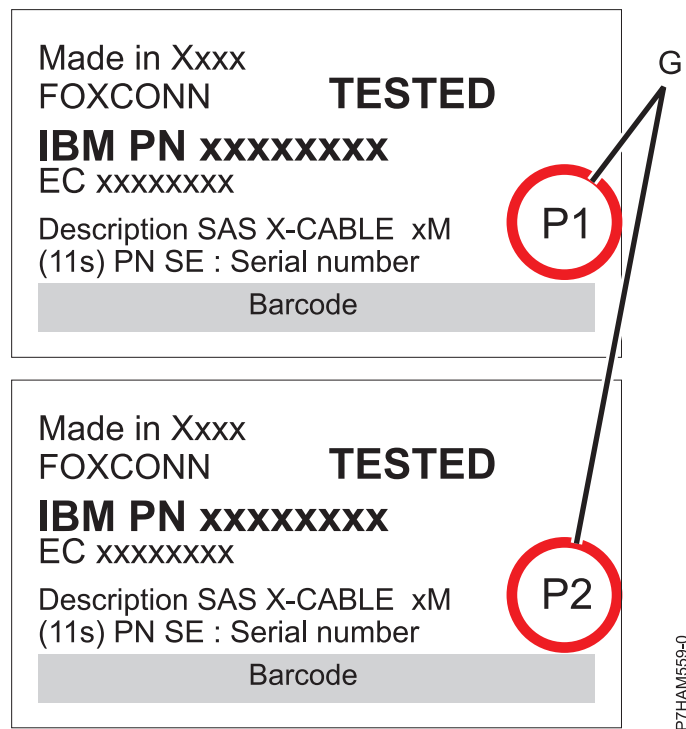

Figure 42. Labels for SAS adapter cables showing P1 and P2 identifiers
- The cable that plugs into independent SAS adapter 1 (C) contains a label with the P1 identifier (G), as shown in Figure 42 on page 72. This adapter does not have access to any other independent adapter and has access only to drive bays D1 - D6.
- The cable that plugs into independent SAS adapter 2 (D) contains a label with the P2 identifier (G), as shown in Figure 42 on page 72. This adapter does not have access to any other independent adapter and has access only to drive bays D7 - D12.
- The cable that plugs into independent SAS adapter 3 (E) contains a label with the P1 identifier (G), as shown in Figure 42 on page 72. This adapter does not have access to any other independent adapter and has access only to drive bays D13 - D18.
- The cable that plugs into independent SAS adapter 4 (F) contains a label with the P2 identifier (G), as shown in Figure 42 on page 72. This adapter does not have access to any other independent adapter and has access only to drive bays D19 - D24.